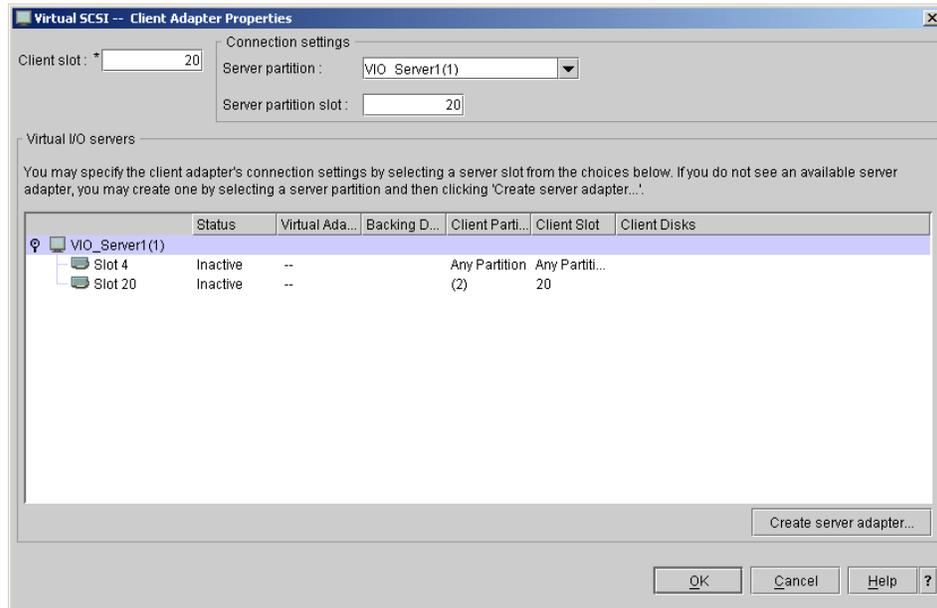

Figure 3-36 Client Adapter properties
- When the operation is complete, you will get a window with the correct client/server slot numbers. Remember to update the correct server and client partition slot numbers for the new adapter according to the list on the window, as shown in Figure 3-36.